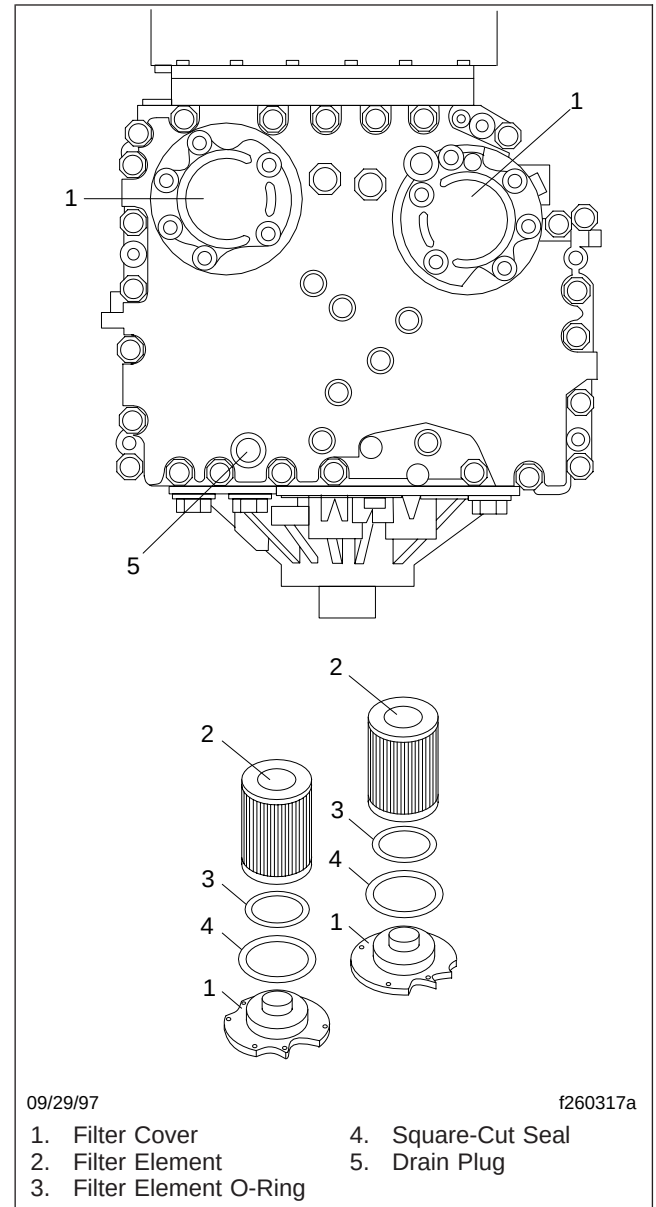

Fig. 2, Allison Transmission Filter Location and Components
5. Remove the filter covers, O-rings, and two square-cut seals from the transmission. See **Fig. 2**.